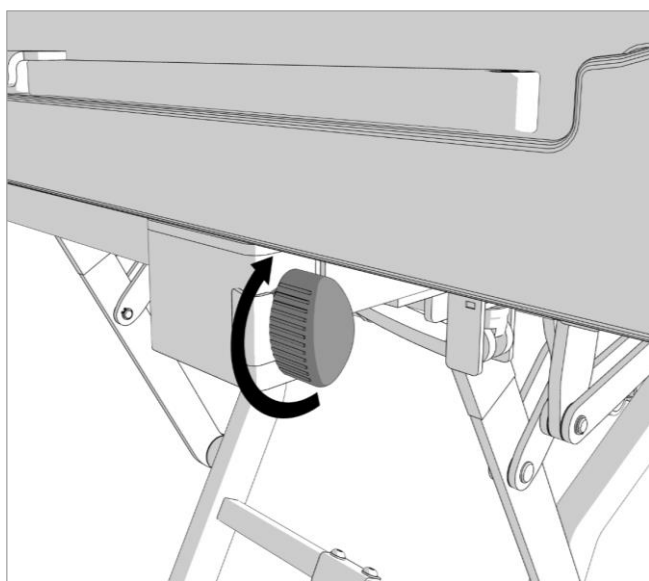

Figure 8.10
11. Tighten the handwheels to secure the footboard in its brackets as shown in Figure 8.10. Failure to tighten the handwheels can present a hazard when moving the bed.